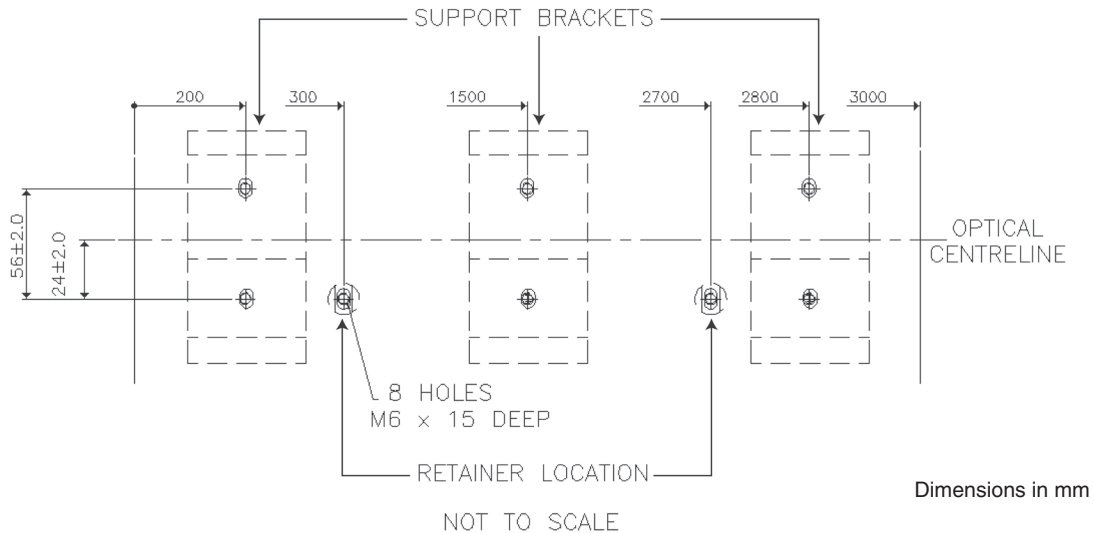

Figure 12 – Drilling detail for low profile brackets
1. With the exception of the locking brackets, this ducting is fitted in the same manner as the standard ducting. These low profile brackets are used to hold the low profile ducting in place and are fitted in a different position to the standard support brackets. The hole positions for the low profile support brackets are shown in Figure 12.